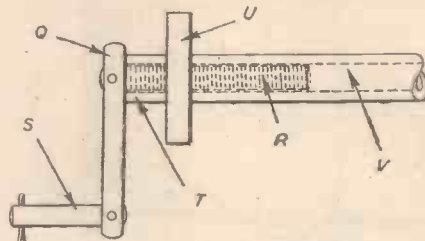

Fig. 6.—Detail of the crankshaft.
The crankshaft is of quite simple design and is shown in Fig. 6. The webs (Q) were made from  $\frac{3}{4}$  in. x  $\frac{1}{2}$  in. mild steel cut to a length of  $2\frac{1}{2}$  in. and drilled with two  $\frac{3}{4}$  in. dia. holes in each at  $1\frac{1}{2}$  in. spacing equidistant of the centre. In one hole of each was riveted and brazed a 4 in. length of  $\frac{1}{2}$  in. rod (R) and in the other hole a 1 in. length (S). On to the 4 in. length was put a distance collar (T) made of  $\frac{3}{4}$  in. x  $\frac{1}{2}$  in. tubing  $\frac{1}{2}$  in. long, and then a  $\frac{1}{2}$  in. ball race (U). The rod R was then inserted and riveted into the end of a 14 in. length of